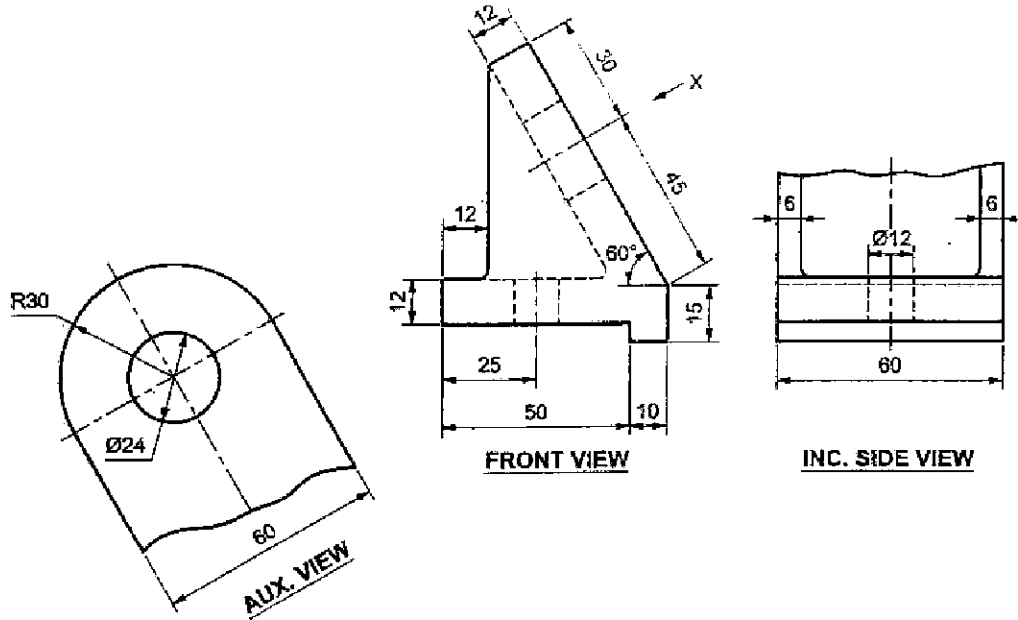

Figure 4
6. Figure 4 shows Front View, auxiliary view and incomplete side view :